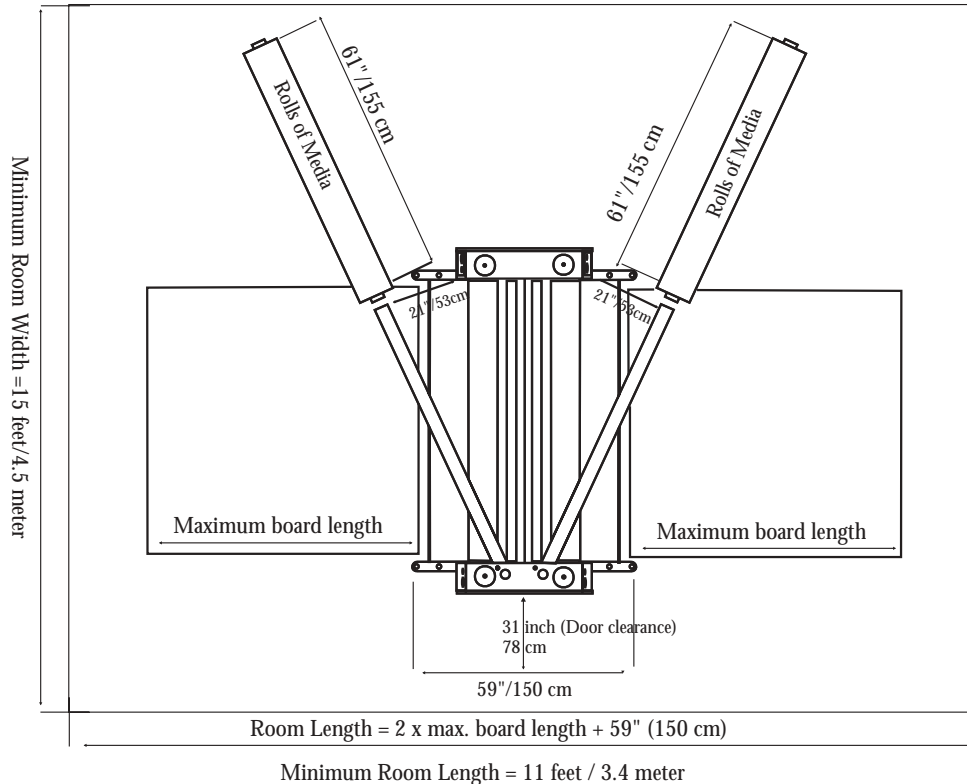

Figure 2. Workspace Area Diagram
- Your laminator has casters to allow for easy moving. Roll the laminator to the location it will be used. (See Workspace Area Diagram – Figure 2).